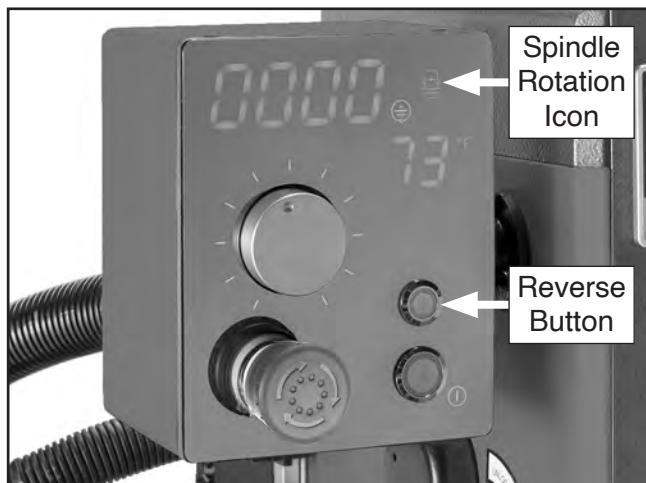

Figure 23. Location of Reverse button and spindle rotation icon.
11. Press Reverse button (see **Figure 23**) to reverse spindle rotation. Reverse button will illuminate and spindle rotation icon (see **Figure 23**) will change to display counterclockwise rotation. Verify motor changes directions and starts up and runs smoothly without any unusual problems or noises.